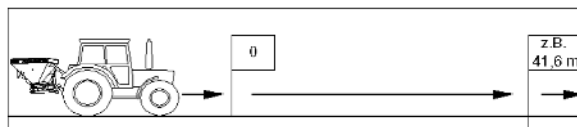

Fig. 71
7. Find the number **(8.5 kg)**, find the numeric value **(A)** on the upper scale (Fig. 71/1). For the desired spread rate **(260 kg/ha)** find the numeric value **(B)** on the middle scale (Fig. 71/2). Lay a straight connecting line through points **A** and **B**. On the bottom scale (Fig. 71/3), the extension of the connecting line shows the numeric value **(C)** for the required slider position, which here is **12.8**.